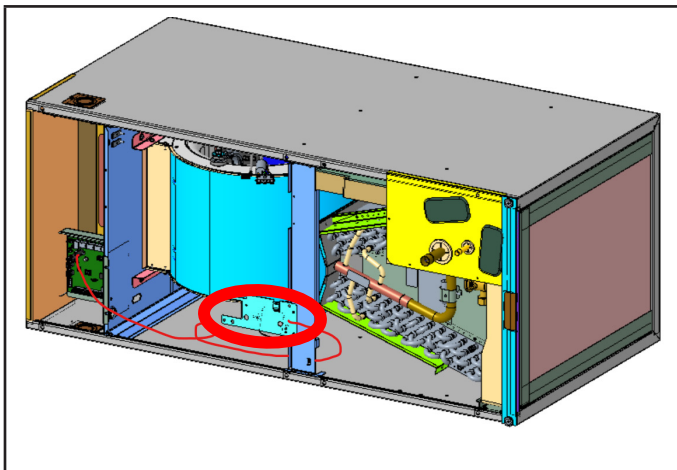
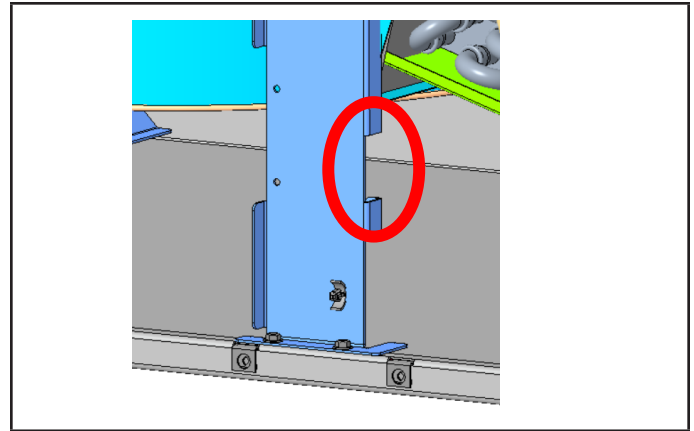

FIGURE 10
FIGURE 11
- 4 - Ensure sensor wire routes to the right hand side, as viewed from the front of the unit. The wire must route through the slotted opening in the center support bracket. See FIGURE 10 and FIGURE 11.